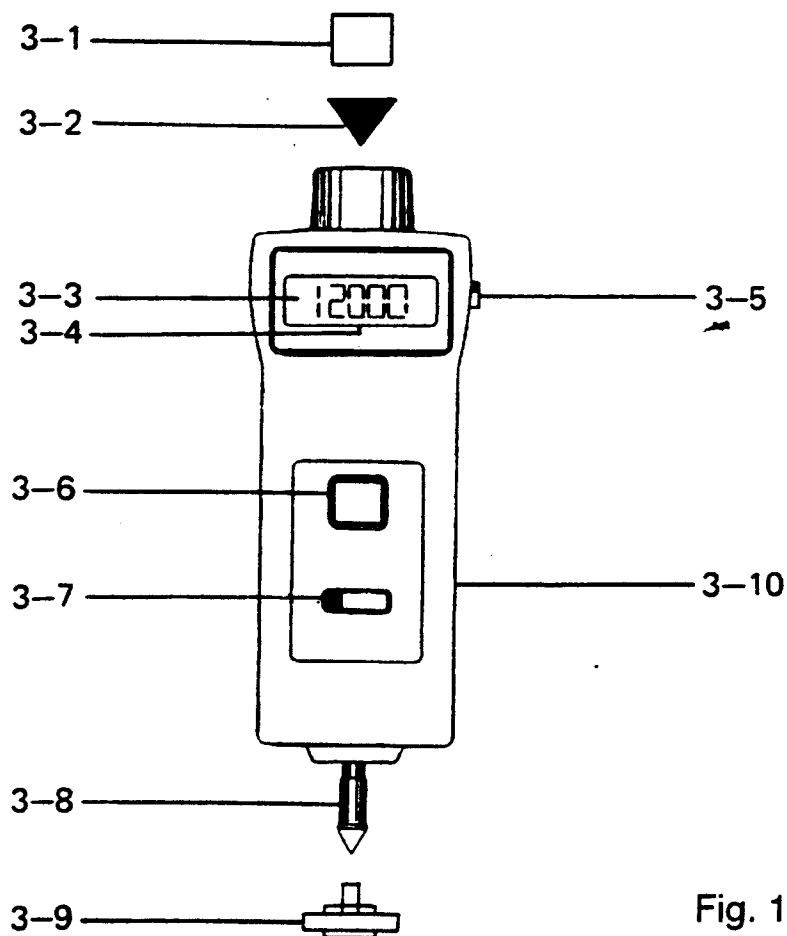

Fig. 1
- A. Slide the FUNCTION SWITCH (3-7, Fig.1) to "RPM (PHOTO)" position.
- B. Affix a reflective mark (tape) to the object being measured. Press the MEASURE BUTTON (3-5 Fig. 1) and align the visible light beam with the reflective mark (3-1, Fig. 1) Ensure that the MONITOR INDICATOR(3-3, Fig. 1) lights when the target passes through the light beam. Release the MEASURE BUTTON (3-5 Fig.1) when the reading stabilizes(about 2 seconds),
- A. Slide the FUNCTION SWITCH (3-7, Fig.1) to "RPM (CONTACT)" position.
- B. Press the MEASURE BUTTON (3-5, Fig. 1) and lightly pressing the rotating devise (3-8, Fig. 1). Release The MEASURE BUTTON (3-5 Fig.1) When the reading stabilizes (approx. 2 seconds).
- A. Slide the FUNCTION SWITCH (3-7, fig.1) to "m/min.(SURFACE SPEED) or "ft/min. (SURFACE SPEED)".
- B. Press the MEASURE BUTTON (3-5 fig. 1) and simply attaching surface speed test wheel to the detector.
Release The MEASURE BUTTON (3-5 Fig.1) When the reading stabilizes.
- 6-1 The minimum, maximum and the last (final) readings are automatically stored during measurement. These values can be recalled anytime by pressing the MEMORY CALL BUTTON(3-6, Fig. 1).
- A. Press the "MEMORY CALL BUTTON"(3-6 Fig. 1) once to display the last reading. The symbol " LA " will appear on the display.
- B. Press the "MEMORY CALL BUTTON"(3-6 Fig. 1) once again to display the maximum value. The symbol " UP " will appear on the display.
- C. Press the "MEMORY CALL BUTTON"(3-6 Fig. 1) once more to display the maximum value. The symbol " dn " will appear on the display.